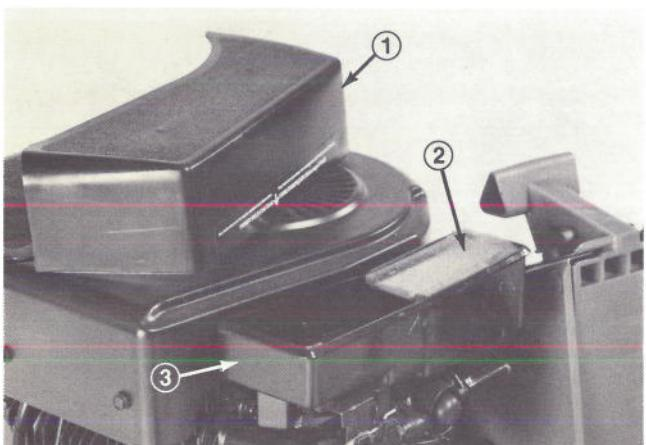

Figure 30
3. Look at bottom of air cleaner element (Fig. 30). If it is dirty, the element must be cleaned.
Note: Take care not to allow dirt to enter air cleaner body (Fig. 30).
- D. Place element into the air cleaner body (Fig. 30).